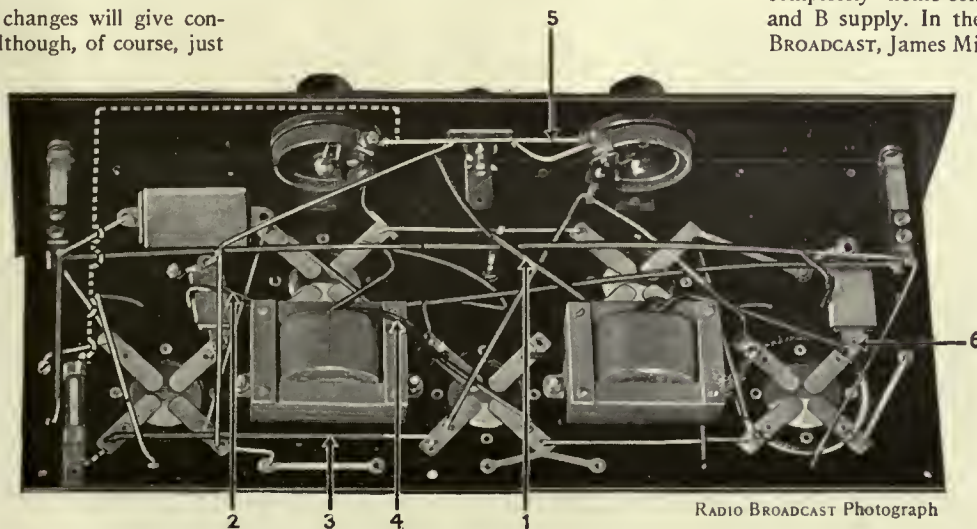
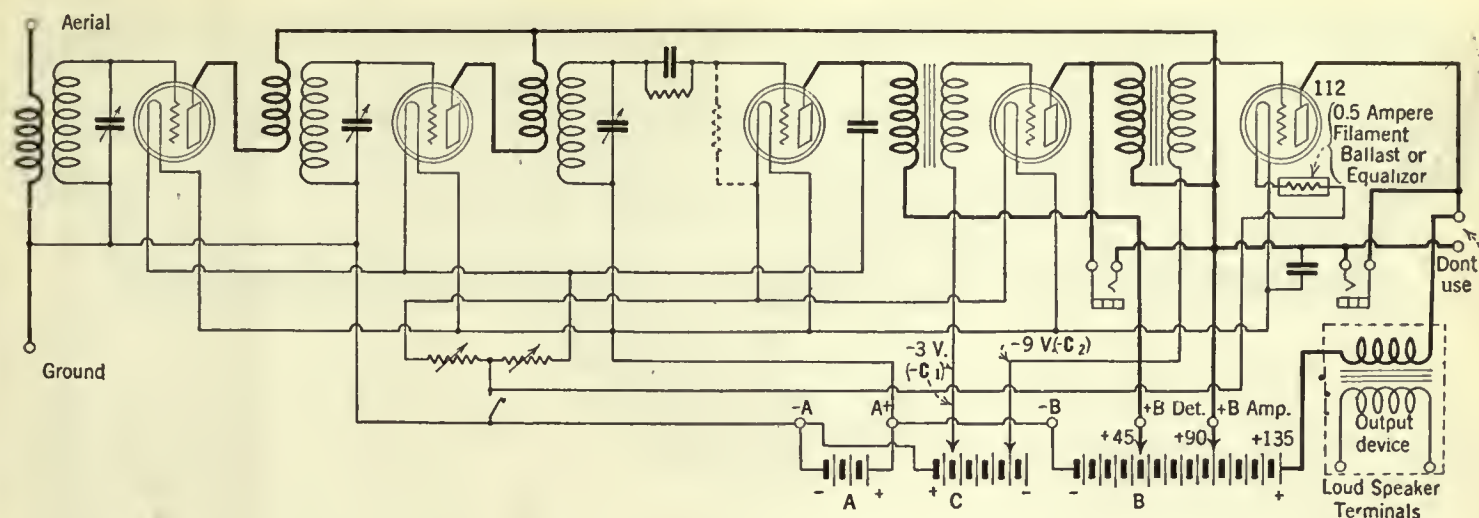

FIG. 1
FIG. 4
To install a power amplifier of the single-stage type, it is merely necessary to plug the input cord of the power amplifier into the jack marked “Phones” on the front panel of the Freshman receiver. When thus connected, the last audio stage in the set is replaced by the power amplifier. The — B, + B Det., and + B Amp. posts on the back of the power unit are connected to the corresponding posts on the receiver sub-panel. The tube should be removed from the last audio socket (left-hand rear socket) in the set. Slightly better results may often be obtained if the set is first removed from the cabinet and the wire marked 4 in Figs. 1 and 2, cut. This is the flexible lead from the plate prong of the first audio socket to the primary of the second audio transformer. The ends of the cut wire should be covered with tape in order to prevent them from touching any other bare wire or metal part, and thus causing a short-circuit.
The circuit diagram of the receiver before any changes are made. The arrows correspond to those in Fig. 1
removed from the cabinet, turn it upside down as shown in Fig. 1. The rear edge of the shelf should be supported so that the set will not rest on the coils.
The necessary changes are to add to the points numbered 5 and 6 in Figs. 1 and 2, leads of flexible rubber-covered wire. These two leads should be left several feet long since they must make connection to the power amplifier.
1. The grid return lead from the secondary of the first audio transformer should be cut at the point indicated by arrow No. 1 in Figs. 1 and 2 and a flexible lead soldered to this terminal of the transformer. This lead will supply C battery to the first stage and it is indicated as -C1 in Figs. 4 and 5.
2. The grid return lead from the secondary of the second audio transformer should be cut at the point indicated by the arrow No. 2, and a flexible lead also soldered to this transformer terminal. This lead supplies C battery to the power tube. It is marked -C2 in Figs. 4 and 5.
3. Completely remove the lead marked No. 3 in Figs. 1 and 2 by cutting it free at the socket prongs to which it connects.
0.5-ampere tube) and connect as indicated by the dash lines in Fig. 1, to the wire joining the two rheostats.
The B and C batteries shown in Fig. 4, are of correct value when the last, or power tube is of the 112 type and the other tubes are of the 201-A type. While the 112 is not capable of delivering to the loud speaker anything like the same amount of undistorted energy as the 171 power tube, it is to be recommended in preference to the 171 where B batteries are employed as the source of plate potential. The 171 requires a heavier plate current than the 112 and as a result is not so economical when operated from dry B batteries.
The new detector tubes, such as the 200-A type, the CeCo H, etc., will be found very advantageous in a number of cases. On signals of normal strength no difference is noticeable in volume when using one type or the other, but these new detector tubes are more sensitive to weak signals than the 201-A tubes and, as a result, will permit the reception of signals too weak to be understandable with the 201-A. The only change necessary in order to use one of the special detector tubes in the old model Freshman receiver is to increase the detector plate voltage and change the grid leak connection. By referring to Fig 4 the grid leak can be seen in its usual place, while the location of the leak when using a new detector is indicated in dotted lines. The easiest method of making this change is to purchase a grid leak and mount and fasten it to the sub-panel near the detector socket. One end connects to the grid and the other end connects to the negative filament terminal of the detector socket. The optimum plate voltage for a